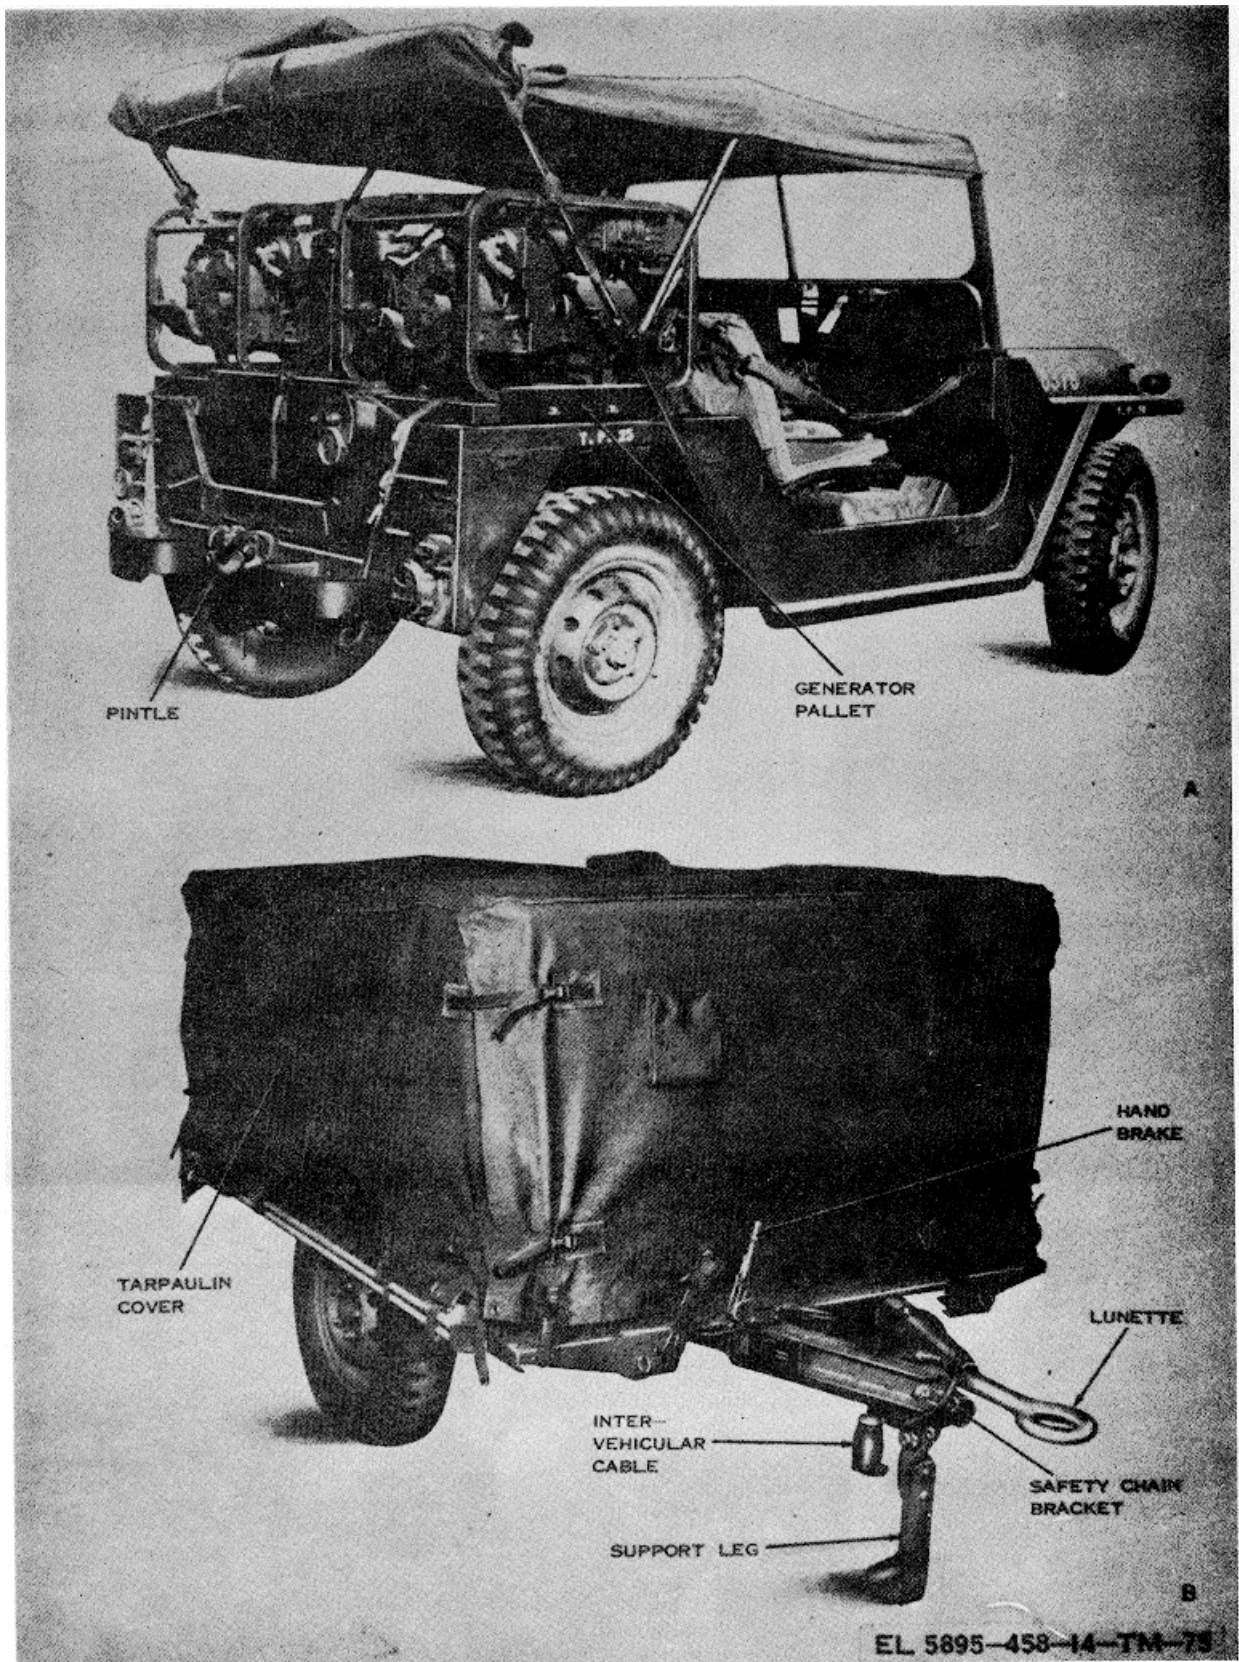

Figure 4-7. Radio Terminal Set AN/MRC-115 (V), prepared for transit.
a. Use. Radio Terminal Set AN/MRC-115(V) (fig. 4-7, 4-8, and 4-9) provides nonsecure radio terminal facilities for forward area units. The AN/MRC-115(V) contains two complete equipment sets, each of which provides 6- or 12- channel pulse-code-modulation (pcm) terminal facilities. The equipment sets may also be connected as a 6- or 12-, 24-channel radio repeater.